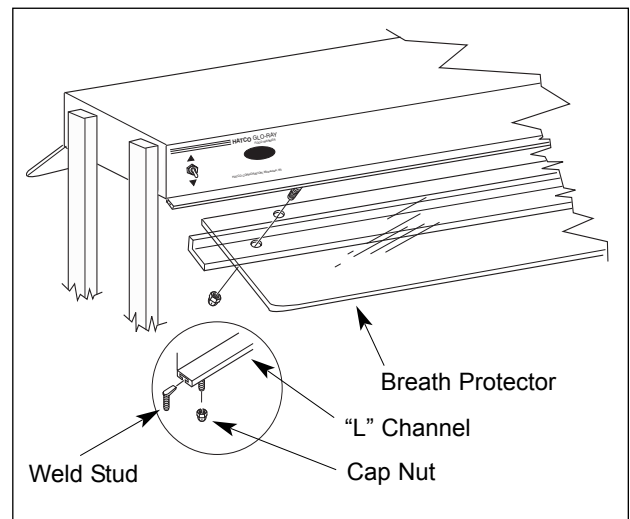

Figure 4. Installing Breath Protector.
1. Slide the weld screws into the slot as shown in Figure 4. Place weld screws into approximate position to align with holes in breath protector.